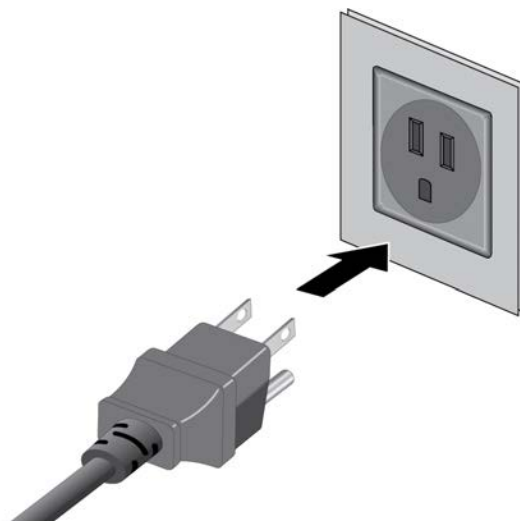

Figure 16. Plugging in the AC Power Cord to an AC Source
2. Connect the power cord to an appropriate AC power source. Refer to Figure 16 on page 95.